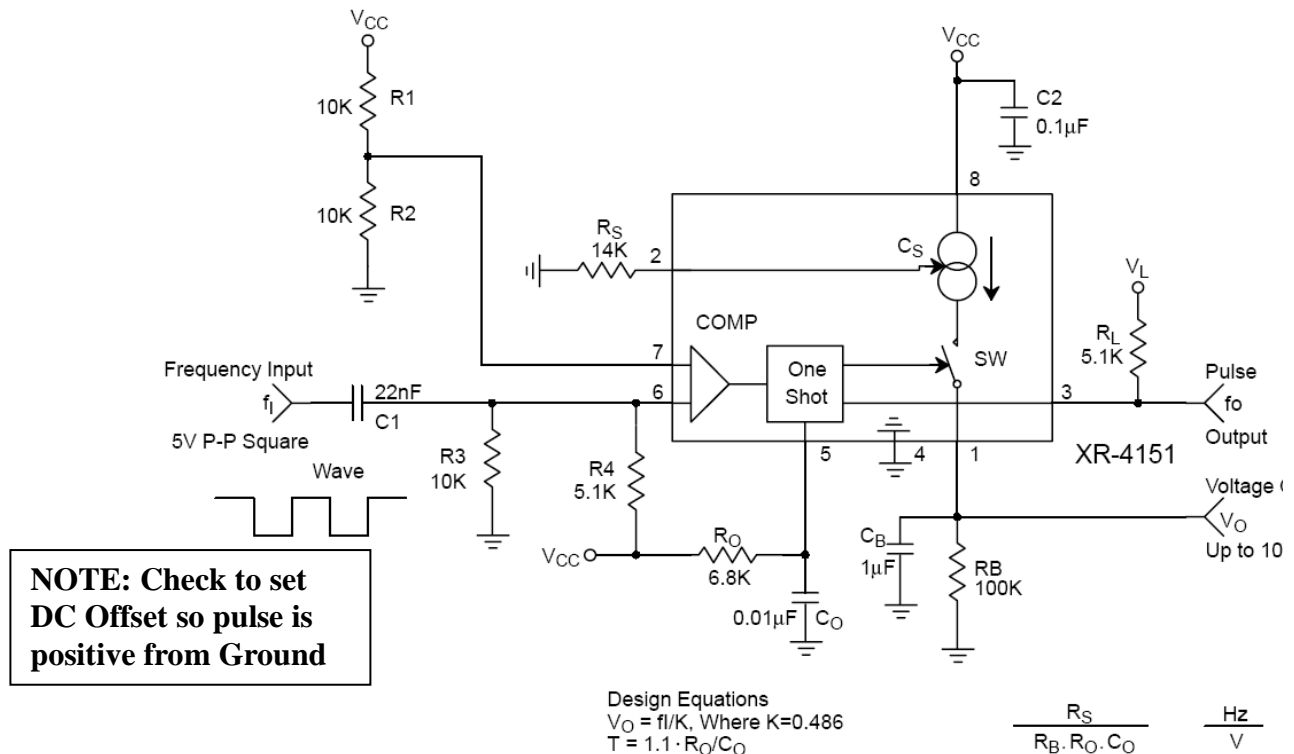

Figure 3 Frequency to Voltage Converter
The XR-4151 can be used as a frequency-to-voltage converter (FVC). Figure 3 shows the single-supply FVC configuration. With no signal applied, the resistor bias networks tied to pins 6 and 7 hold the input comparator in the off state. A negative going pulse applied to pin 6 (or positive pulse to pin 7) will cause the comparator to fire the one-shot. **For proper operation, the pulse width must be less than the period of the one-shot, $T = 1.1 R_0 C_0$. Make sure duty cycle is great enough, if less than 20%, you will be unable to obtain full frequency.** For a 5Vpp square-wave input the differentiator network formed by the input coupling capacitor and the resistor bias network will provide pulses which correctly trigger the one-shot. An external voltage comparator can be used to "square-up" sinusoidal input signals before they are applied to the XR-4151. Also, the component values for the input signal differentiator and bias network can be altered to accommodate square waves with different amplitudes and frequencies. The passive integrator network $R_B C_B$ filters the current pulses from the pin 1 output. For less output ripple, increase the value of C_B .
- a. Construct a Frequency to Voltage Converter as shown in Figure 3. A few modifications to the circuit will be required to accommodate parts that are available in the lab. The changes are as follows:
- b. Calculate the Output Voltages for the input Frequencies listed in TABLE 2 using the following equation (also found on the datasheets and Figure 3 of this lab)